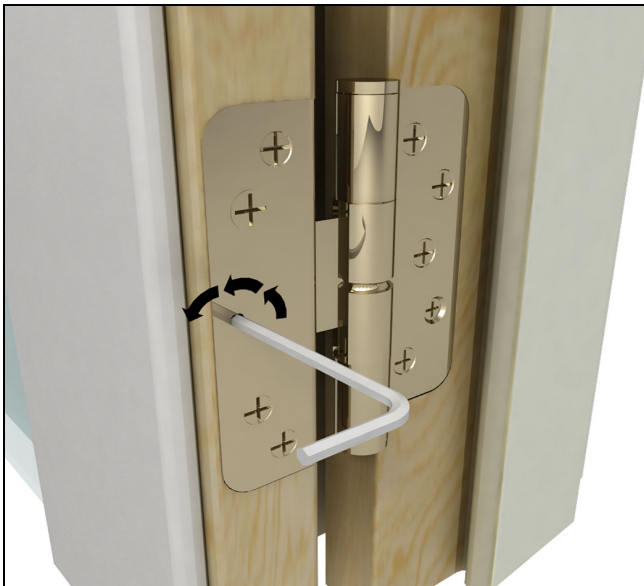
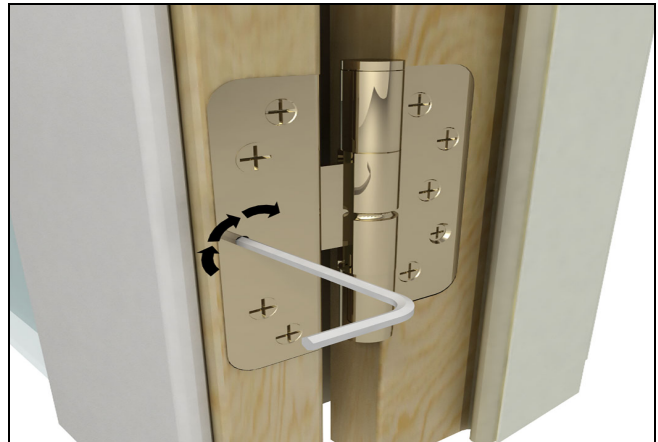

Figure 32 Counterclockwise to move panel away from jamb.
Figure 33 Clockwise to move panel toward jamb
2. Make horizontal adjustment first. To adjust panel(s) horizontally away from jamb, turn horizontal adjustment screw counter clockwise using 5/32" (4) Allen wrench provided. See Figure 32. To move the panel toward jamb, turn Allen screw clockwise. See Figure 33.